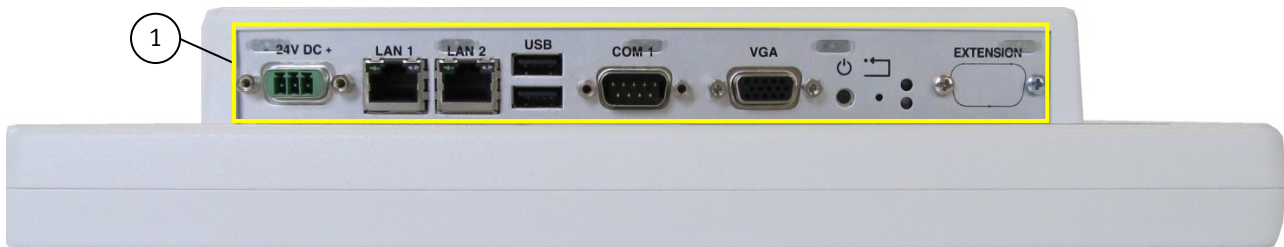
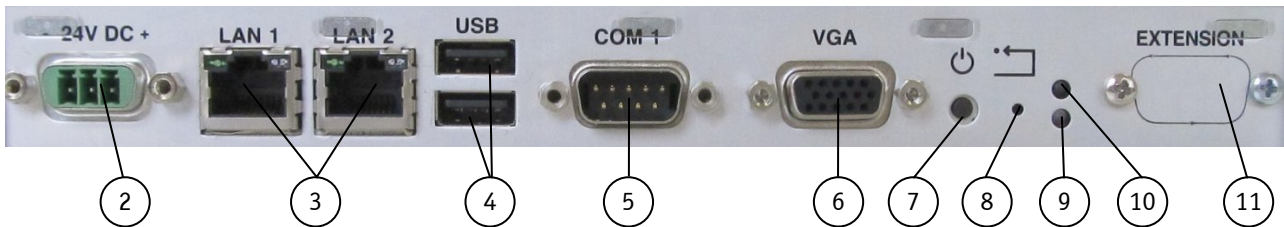

Fig. 12: Bottom view
Fig. 13: Detail of the bottom side with interfaces
Please observe that this power LED does not indicate error codes if malfunction conditions of the system occur. Only the power LED (Fig. 13, Pos. 10) on the interface side signals a malfunction condition via error codes (Refer to the section 8.2).
Legend for Fig. 12 and Fig. 13:
The DC In power connector (refer to Fig. 13, pos. 2 and Fig. 14) provides the power connection of the Medi Client IIA system to the main power source via the DC power cable (optional accessory) or via the AC/DC adapter (optional accessory). For the pin assignment refer to the section 10.1.1 "Power Connector."
To restart the system, e.g. after a system hang-up, press the RESET button (Fig. 13, pos. 8). The system restarts automatically without turning the computer off and on again.
The power button (Fig. 13, pos. 7) allows to power ON/OFF the system. Please observe the settings in BIOS Setup / Chipset Configuration / South Bridge Configuration / Restore on AC Power Loss with option settings: **Power on** (default)/ Power off).
The power LED (Fig. 13, pos. 10) indicates the current system power state (S0, S3, S4, or S5) as shown in the Fig. 15. The power LED will blink red if an error condition was detected; refer to the Fig. 16 and Fig. 17. The blink code is independent from the systems power states LED color. The color red is reserved for error codes, only.
Refer to (Fig. 13, pos. 9) for the storage drive activity LED location. Depending on the system configuration [a CF card, type I and/or an internal 2.5" HDD (SATA)] and storage drive/s activity this LED may be blinking as shown below:
These interface connectors (refer to Fig. 13, pos.3) are provided as RJ45 sockets with integrated LEDs and support a 10/100/1000 Mbps data transfer rate.
The system is equipped at the bottom side (rear) with two USB 2.0 interface connectors (refer to Fig. 13, pos. 4). These connectors provide connections for USB-compatible devices.
This RS232 connection (refer to Fig. 13, pos. 5) is available as 9-pin D-SUB connectors (male) and provides connection (RS232) for serial devices. The system is delivered with an ESD protection cover (Fig. 19) mounted to this serial interface in order to ensure the ESD protection if no serial device is connected to this port.
An external (analog) monitor can be plugged into this interface (refer to Fig. 13, pos. 6) which is provided as a 15-pin D-SUB socket.
On customer request, the configuration of the Medi Client IIA system can be expanded with an optional interface (Fig. 13, pos. 11) as: RS232 or RS422/485 or LPCtoCAN (SJA1000) adapter. The expansion of the system and the custom settings can be carried out by the manufacturer only. The corresponding pin assignments for your customized system configuration you can find in the chapter 10.